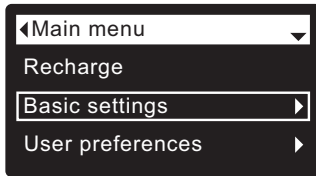

FIG. 51
1. From any of the rolling status screens, press the SELECT (O) button to display the **Main menu**.
2. Press the DOWN (▼) button to scroll through the menu options until **Basic settings** is highlighted (See Figure 51).